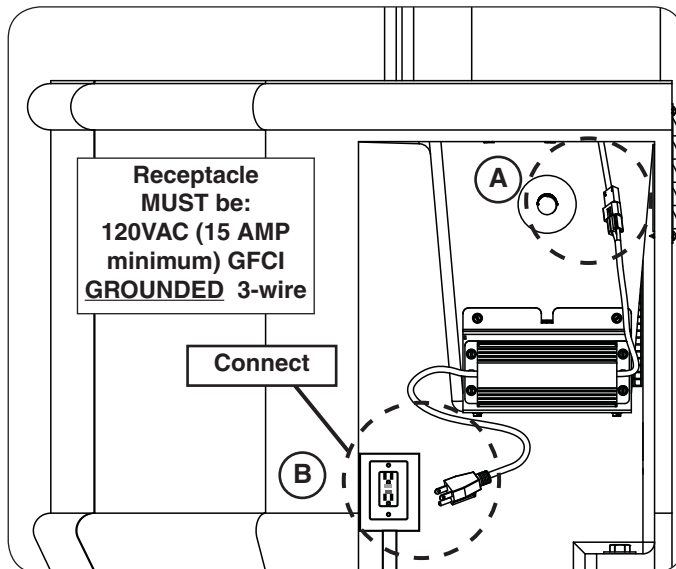

Fig. 26-1 Route and connect power supply wire and cord
1. Route the power supply wire (longer free wire coming from the control box) through the hole in the hearth and down to the power supply. Connect as shown in Fig. 26-1, A.
2. Connect the power supply cord to the previously wired **120VAC (15 AMP minimum) GFCI GROUNDED 3-wire receptacle** (see Fig. 26-1, B).